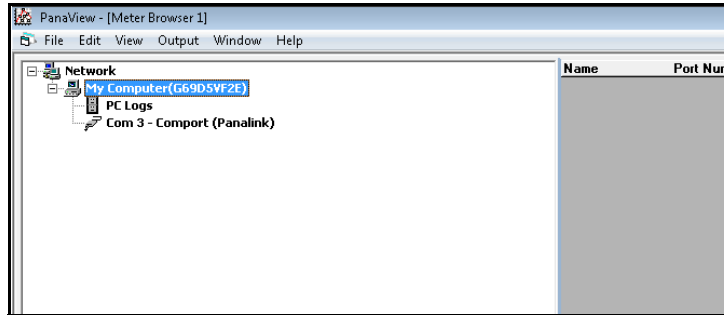

Figure 32: Added New Communication Port to Network Tree
6. Wait a few seconds for the information to be processed and registered (the buttons are greyed out during this period). The new successfully created communications port will be added to the network tree as shown in Figure 32 below.